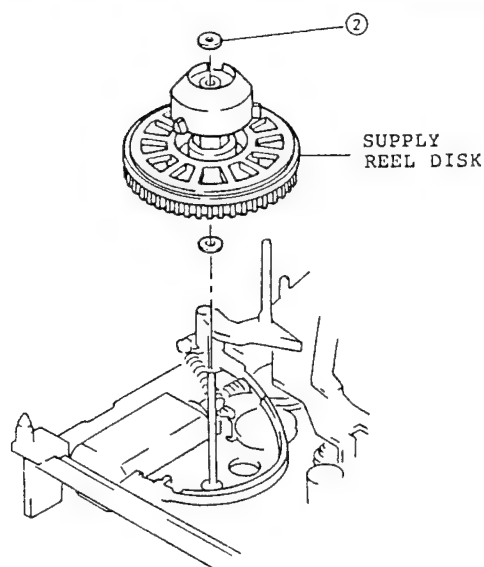

Fig. 2-72
2. Remove one (1) washer holding the supply reel disk. (See Fig. 2-72)
(See Fig. 2-72)